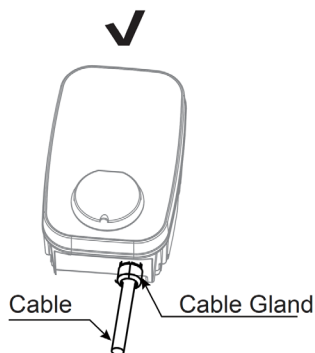

Fig. 6
- Option 1: Bottom entry (recommended): the cable enters through the bottom and is sealed with the cable gland. Fig. 6.